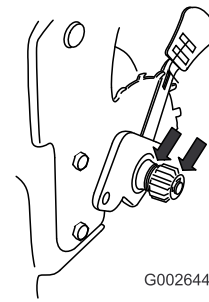

Figure 40
2. Apply a lubricating oil to the inner and outer sides of the gears as shown in Figure 40.